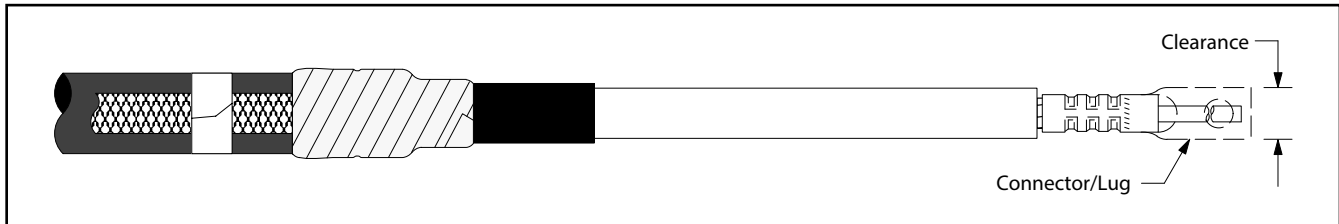

Figure 14
- 9.1 Check to insure 3M™ Cold Shrink QT-III Silicone Rubber Termination fits over the selected lug or connector. If lug or connector (Figure 14) will not fit through the termination core, clean the insulation (per Step 10.0) and slide termination on cable before installing lug or connector. **DO NOT REMOVE CORE AT THIS TIME.**